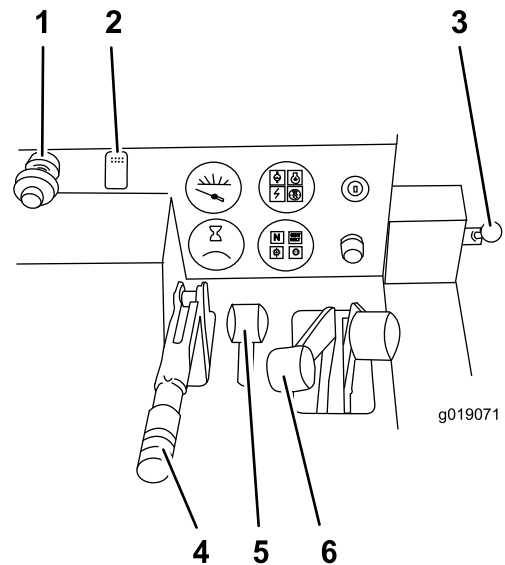

Figure 16
2. When the engine is warm, pull the throttle out to full throttle (Figure 16).
3. If the machine is equipped with a trencher, move the attachment selector lever to the cable plow position (Figure 16).